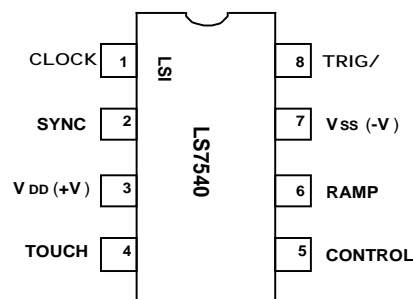

FIGURE 1
- LS7540 (DIP); LS7540-S (SOIC) - See Figure 1 -